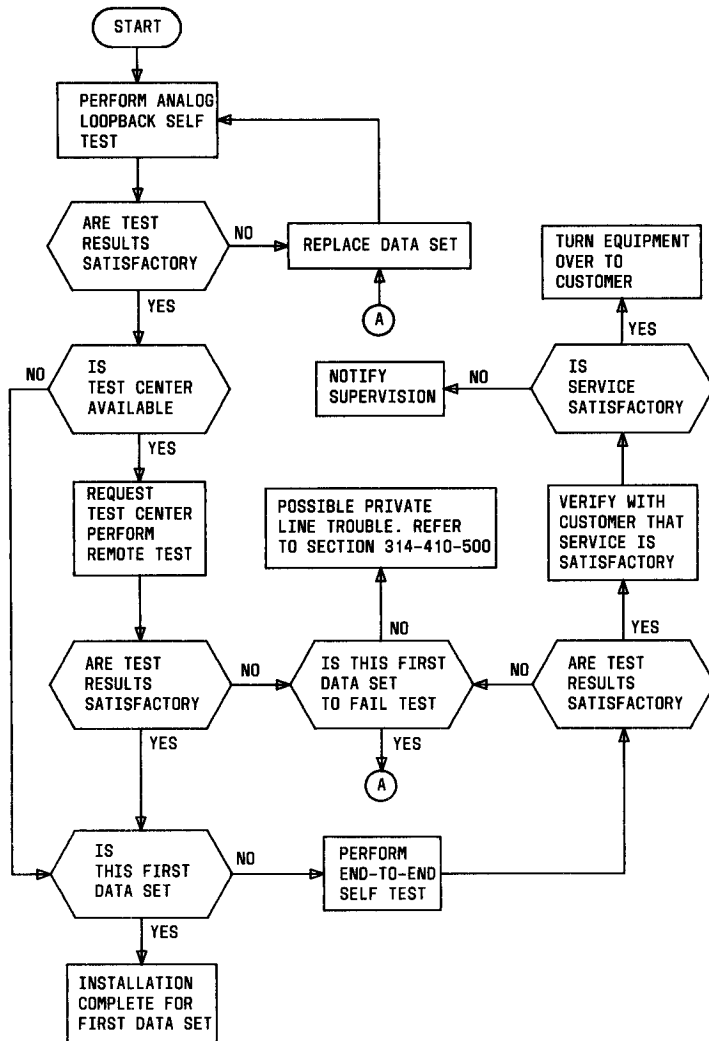
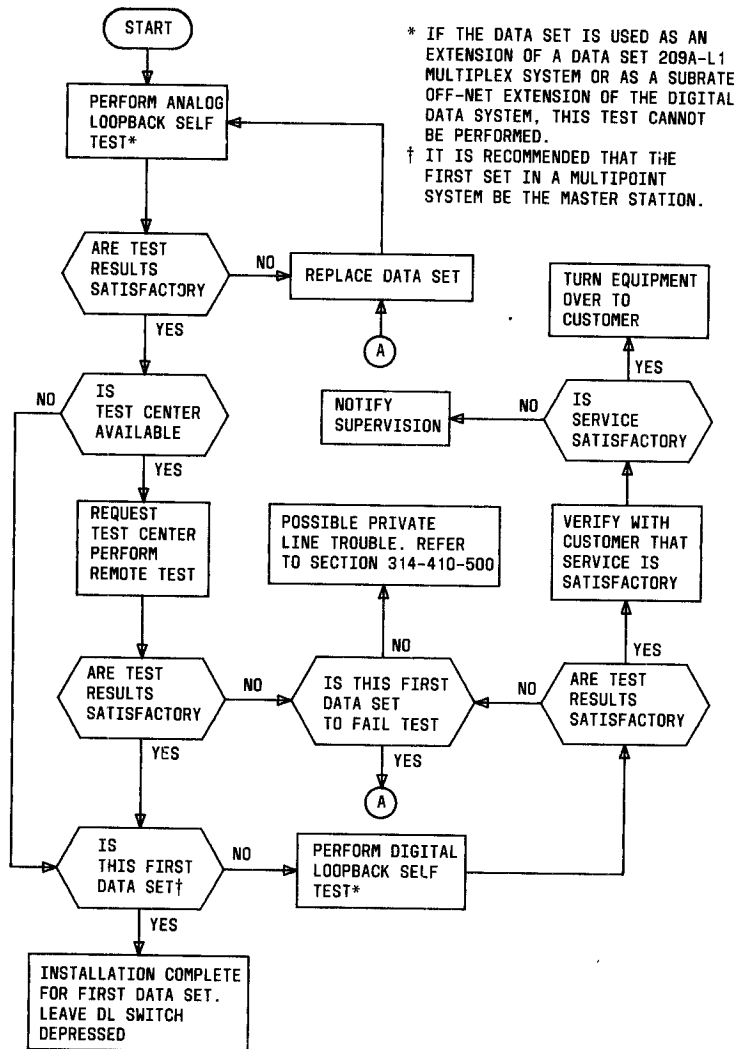

Fig. 2—Installation Test Sequence (2-Wire Private Line)
Fig. 3—Installation Test Sequence (4-Wire Private Line)
**2.02** Before proceeding with the tests, verify that the private line meets the requirements specified in Section 314-410-500. For a 2-wire private line, the installation test sequence is shown in Fig. 2. For a 4-wire private line, the installation test sequence is shown in Fig. 3.